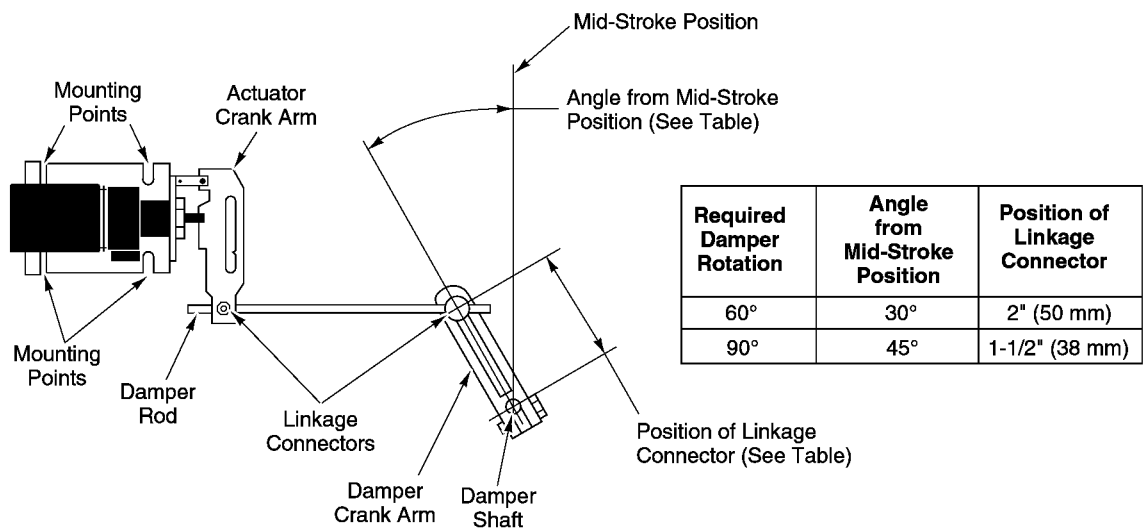

Figure-15 Recommended Actuator/Damper Mounting.
- b. Be sure to allow adequate working space around the actuator mounting location to mount the actuator, link it to the damper, and wire it into the system (refer to Figure-15.).
- c. If possible, select a mounting position such that, at mid-stroke, the actuator crank arm and the damper crank arm on the drive shaft are each at a 90° angle to the damper rod (refer to Figure-15). This is the recommended mounting position. It may be necessary to swivel the actuator linkage to arrive at this mounting location.
2. Position the actuator on the duct and mark the location of the mounting holes, using the actuator mounting bracket as a template. Refer to Figure-15.